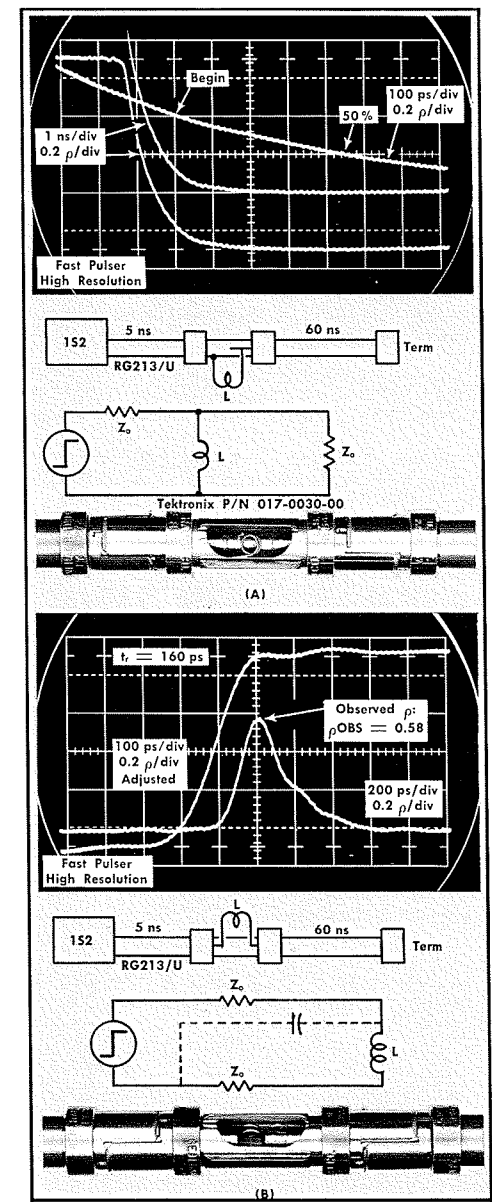

Fig 15. (A) $1\frac{3}{4}$ turn coil in parallel, (B) same coil in series, with 50Ω coaxial line.
Fig 15 is an example of TDR displays from a small inductor ($1\frac{3}{4}$ turn) placed in parallel with a 50Ω line at (A), and in series with the 50Ω line at (B). Calculations were made on Fig 15A first because the display is a clean exponential that permits L/R time constant analysis. Waveforms #1 and #2 of Fig 15A show first the full exponential decay through five CRT divisions, then at #2 the waveform was positioned vertically so the exponential end is at -1 division. Waveform #3 used the same vertical calibration, but was time expanded to obtain the new 100% to 50% time duration.
Fig. 30A shows the basic display. L/R time-constant analysis is similar to that of Fig. 15 and formula (8) of Table 5, except the core R is in parallel with the driving line Z_0 .